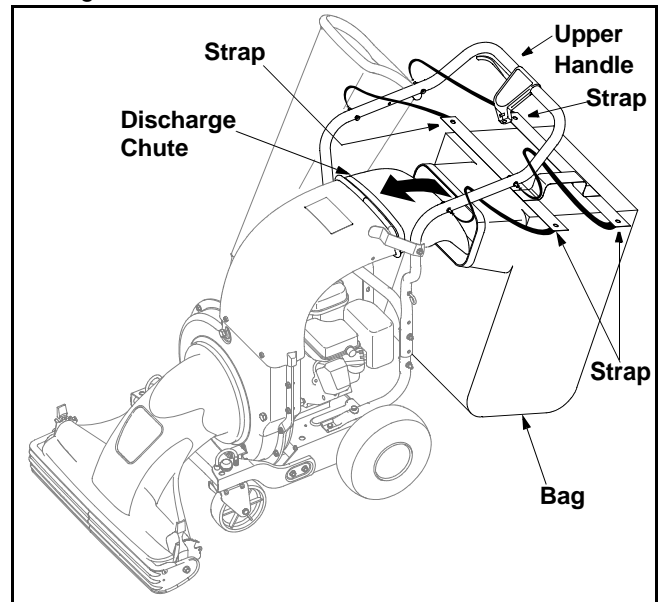

Figure 6
- Place bag under the upper handle assembly and slip the front opening on the bag over the discharge chute, making certain it is over the rim on the discharge chute. Follow direction of the arrows in Figure 6.
- Place the four straps on top of the bag **over** the upper handle, hooking them on the studs to secure in place. See Figure 6. Squeeze the clamp on the drawstring and pull the drawstring tight. Release the clamp.